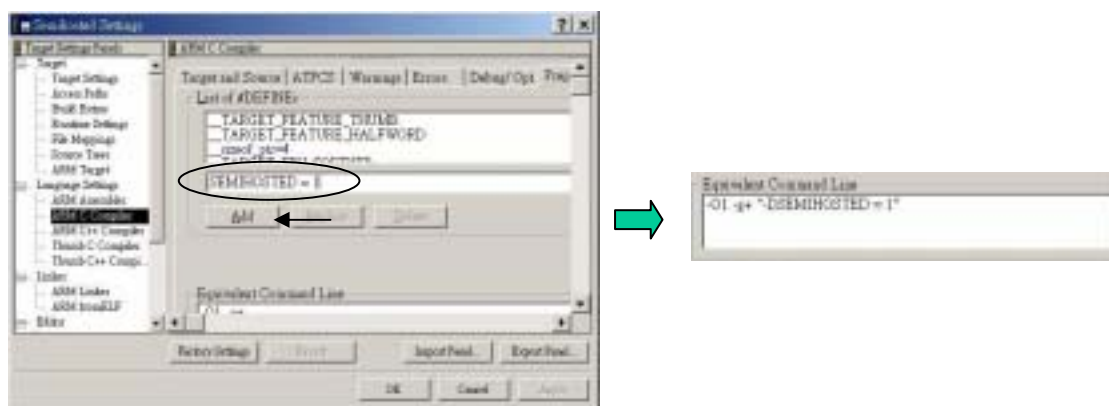

Figure 8 Semihosting defined
- (7) Click **Preprocessor** tab in the **ARM C Compiler** (Figure 8). Type SEMIHOSTED = 1 into the text field beneath the List of #DEFINES and click **Add** to define the SEMIHOSTED. Figure 8 is showed the result. The Equivalent Command Line text box displays the result.
- (8) Click **Apply** to apply your changes.